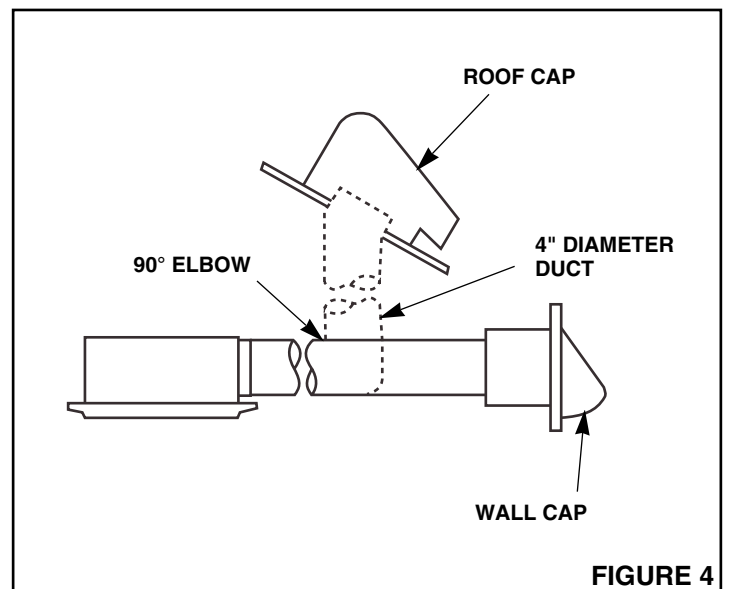

FIGURE 4
2. **Refer to Figure 4.** Run 4" round duct from outside to fan's discharge opening.